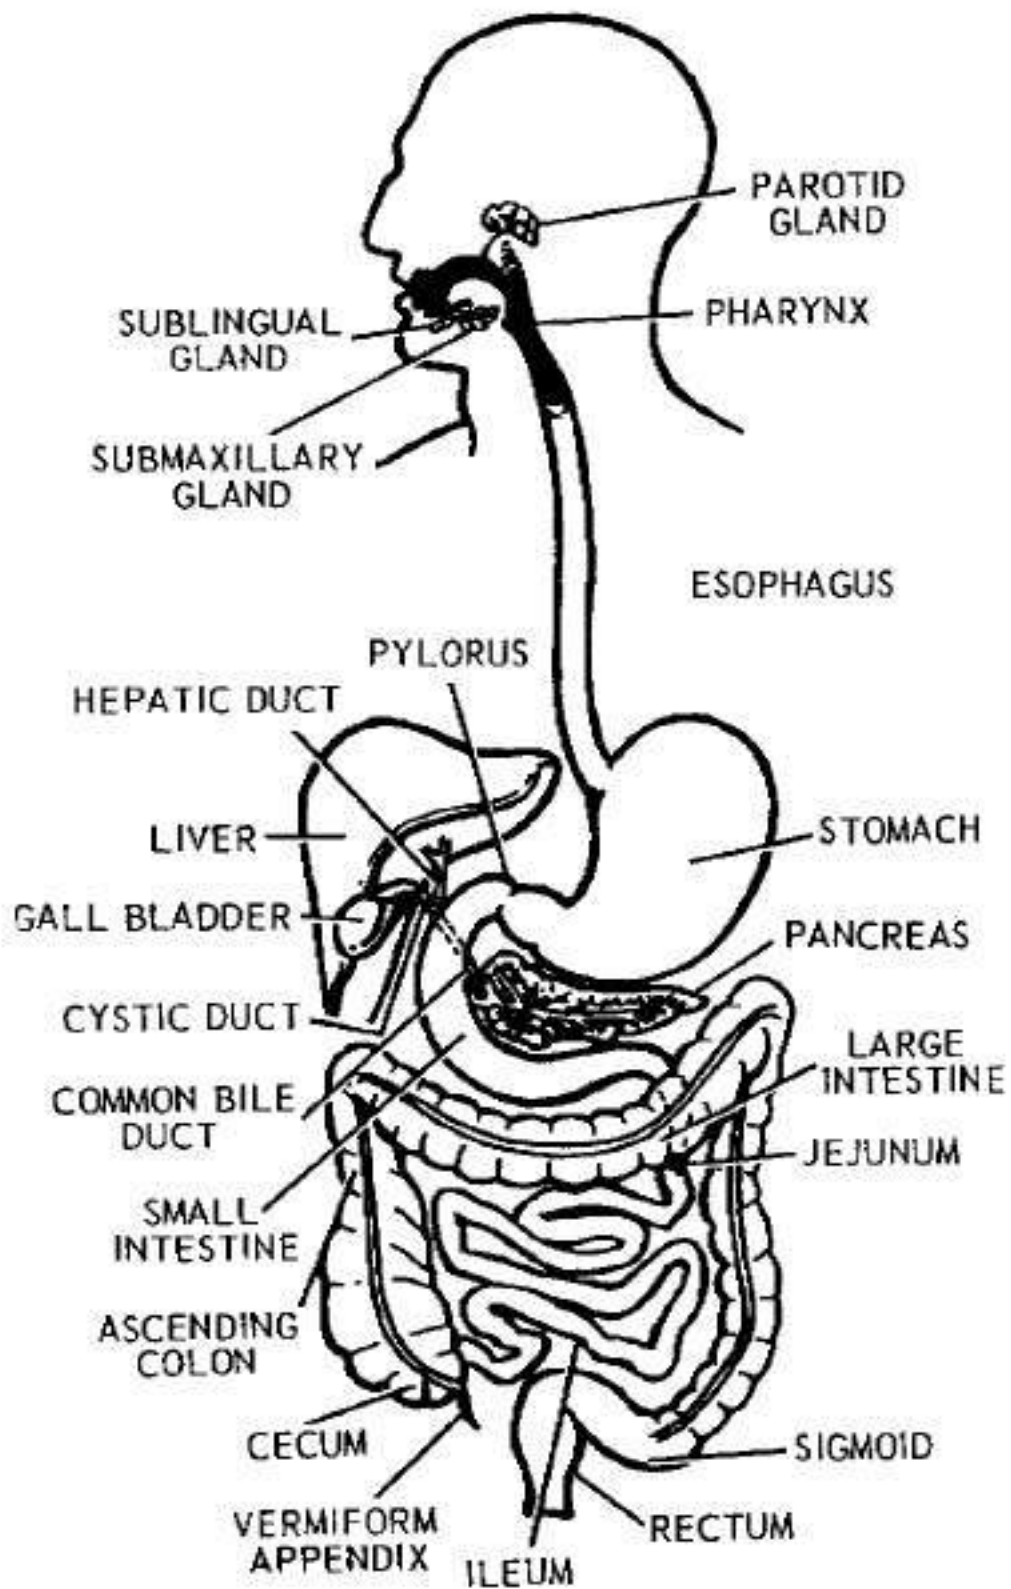

Figure 15-1. The digestive system.
a. The mouth, or oral cavity, is the beginning of the digestive tract (fig 15-1). Here, food is ground into small particles and mixed with saliva for swallowing. Saliva moistens food and makes it easier to chew and to swallow. Enzymes in saliva break starches into sugars, which is the beginning of chemical digestion. About 1,500 cc. of saliva is secreted daily.